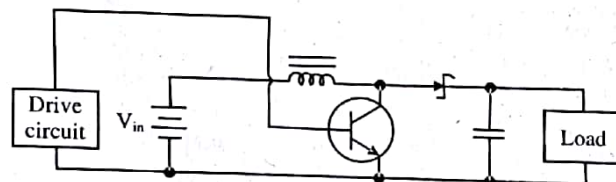

Figure 4.12
- 2) **Boost" converter circuit:** The schematic figure 4.12 shown here is for a "boost" converter circuit, a type of DC-DC "switching" power conversion circuit